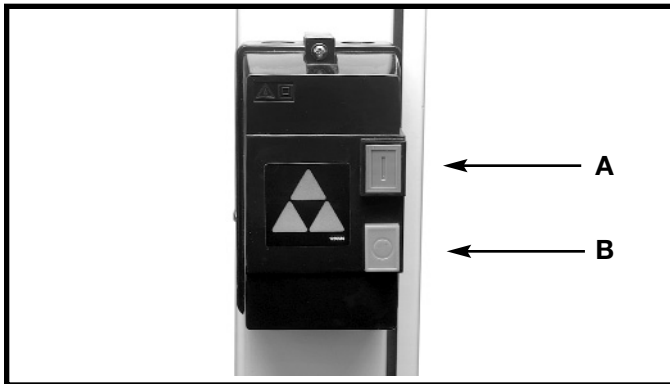

Fig. 14
The power switch is located on the left side of the machine. To turn the machine "ON", push the green start button (A) Fig. 14. To turn the machine "OFF", push the red stop button (B).